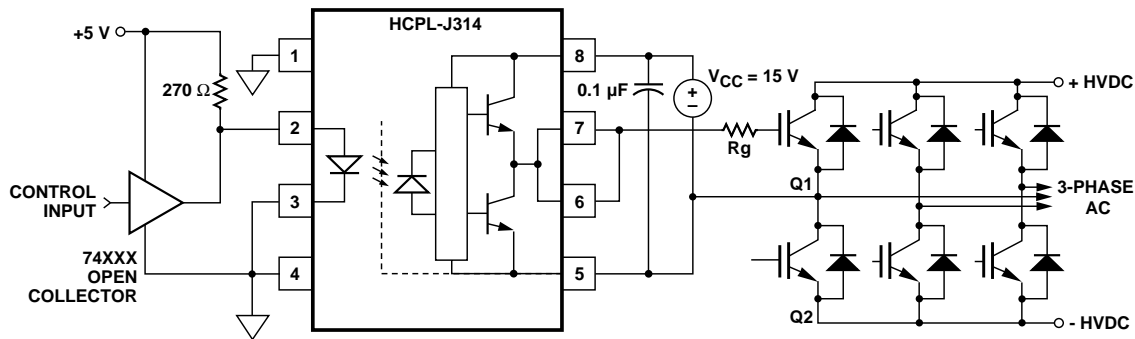
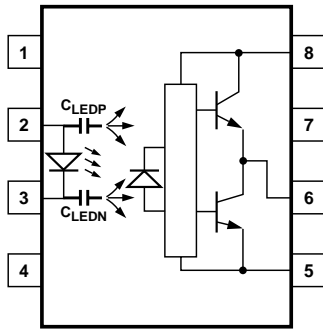
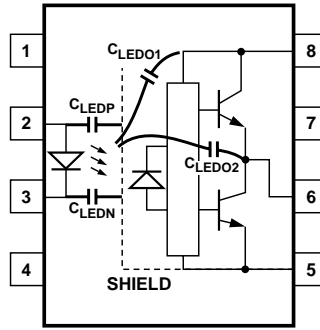

Figure 19. Recommended LED Drive and Application Circuit for HCPL-J314.
Figure 21. Optocoupler Input to Output Capacitance Model for Unshielded Optocouplers.
Figure 22. Optocoupler Input to Output Capacitance Model for Shielded Optocouplers.
the HCPL-J314 on a small PC board directly above the IGBT) can eliminate the need for negative IGBT gate drive in many applications as shown in Figure 19. Care should be taken with such a PC board design to avoid routing the IGBT collector or emitter traces close to the HCPL-J314 input as this can result in unwanted coupling of
Step 1: Calculate Rg minimum from the IOL peak specification. The IGBT and Rg in Figure 19 can be analyzed as a simple RC circuit with a voltage supplied by the HCPL-J314.
where $K_{ICC} \cdot Qg \cdot f$ is the increase in ICC due to switching and KICC is a constant of 0.001 mA/(nC·kHz). For the circuit in Figure 19 with IF (worst case) = 10 mA, Rg = 32 Ω, Max Duty Cycle = 80%, Qg = 100 nC, f = 20 kHz and TMAX = 85°C:
Without a detector shield, the dominant cause of optocoupler CMR failure is capacitive coupling from the input side of the optocoupler, through the package, to the detector IC as shown in Figure 21. The HCPL-J314 improves CMR performance by using a detector IC with an optically transparent Faraday shield, which diverts the capacitively coupled current away from the sensitive IC circuitry. However, this shield does not eliminate the capacitive coupling between the LED and optocoupler pins 5-8 as shown in Figure 22. This capacitive coupling causes perturbations in the LED current during common mode transients and becomes the major source of CMR failures for a shielded optocoupler. The main design objective of a high CMR LED drive circuit becomes keeping the LED in the proper state (on or off) during common mode transients. For example, the recommended application circuit (Figure 19), can achieve 10 kV/μs CMR while minimizing component complexity.
$+dV_{CM}/dt$ transient, since all the current flowing through C_{LEDN} must be supplied by the LED, and it is not recommended for applications requiring ultra high CMR1 performance. The alternative drive circuit which like the recommended application circuit (Figure 19), does achieve ultra high CMR performance by shunting the LED in the off state.